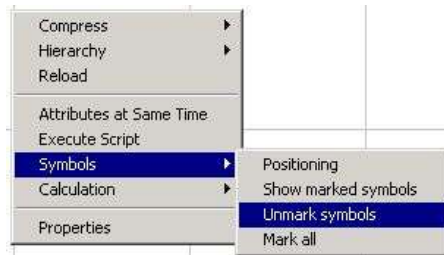

Figure 133: Highlighting – Deselect the Critical Path
When the throughput time calculation is complete, all processes belonging to the critical path are highlighted on one hand, *Please refer to the Figure 135*, and the calculated results are displayed by means of a message on the other hand, *Please refer to the Figure 134*. You can remove the highlighting of the critical path using the contextual menu of the right mouse button by selecting **Unmark symbols**, *Please refer to the Figure 133*. Highlighting of the start and end symbols is removed by selecting the **Reload** function.
- 4) Click **Remove icon mark**. Please refer to the Figure 133.